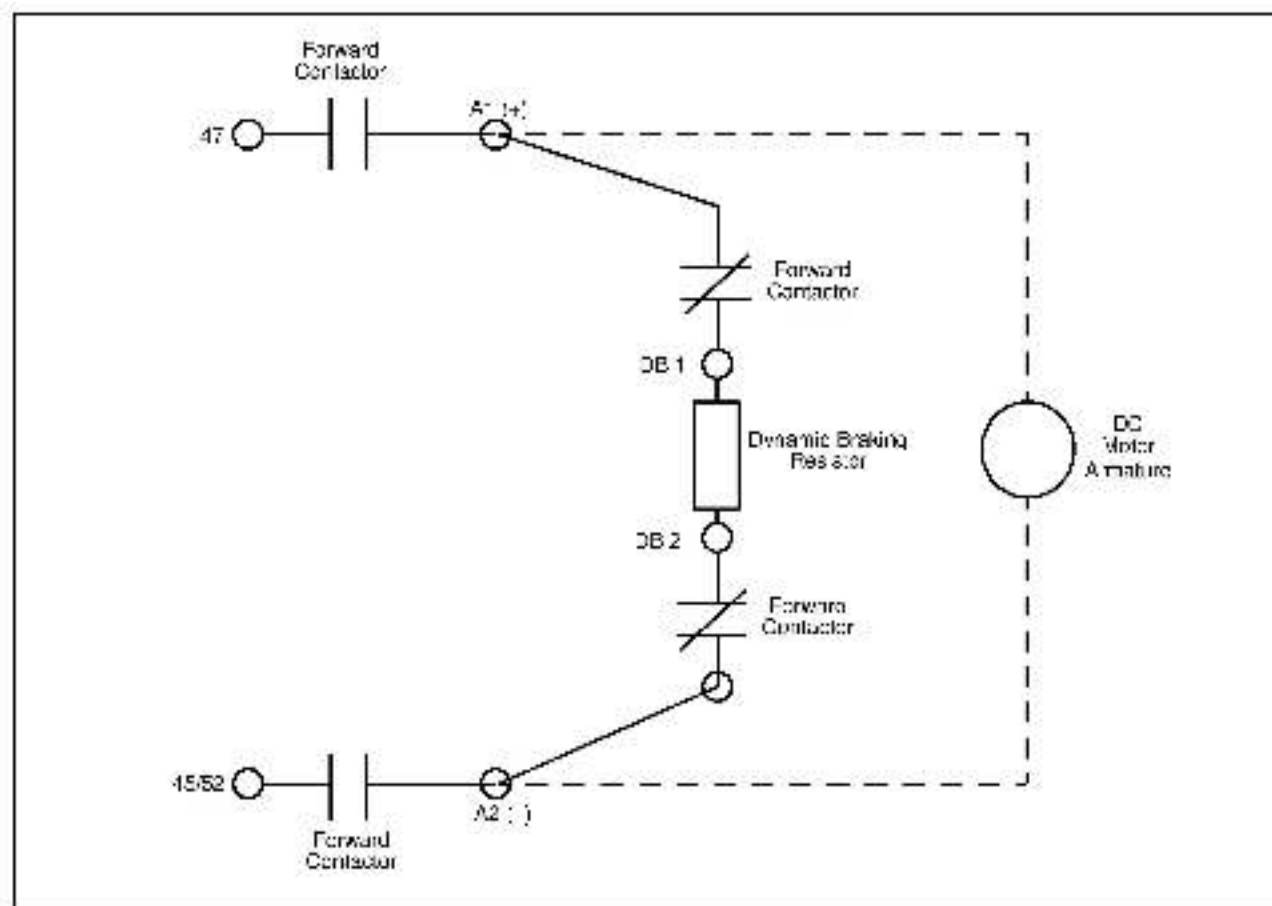

Figure 2 Dynamic Braking Resistor Schematic for Regenerative Drives and Non-Regenerative Drives Without a Reversing Contactor
- Step 8. **For all regenerative MinPak Plus DC drives and non-regenerative MinPak Plus DC drives without a Reversing Contactor:** Connect the dynamic braking resistor to the normally closed (NC) contacts of the drive's M-contactor. These contacts are to the rear of the M-contactor. This places the resistor across the motor's armature when the M-contactor is de-energized. Refer to figures 2 and 5.